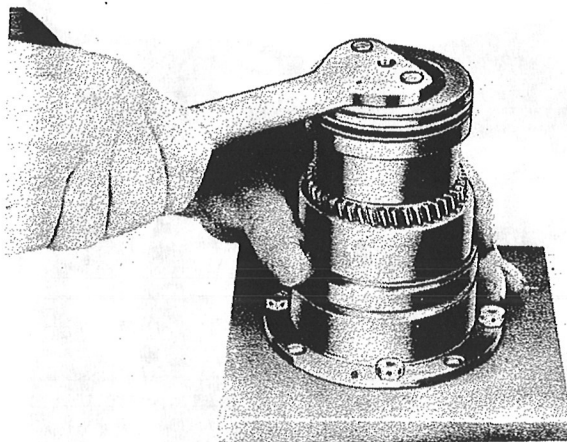

Figure 117—Installing Piston Head
5. Screw the piston head into the piston skirt until the locking holes align. (See figure 117.) Serial